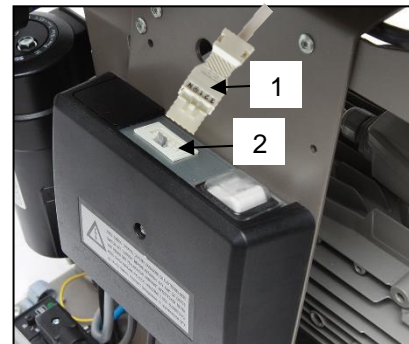

Fig. 11
- Connect the cabinet to the compressor using the electrical cord with the connector (1) into the socket (2). (Fig. 11)
- Check the connection of the cabinet connector to the compressor. (Fig. 11)